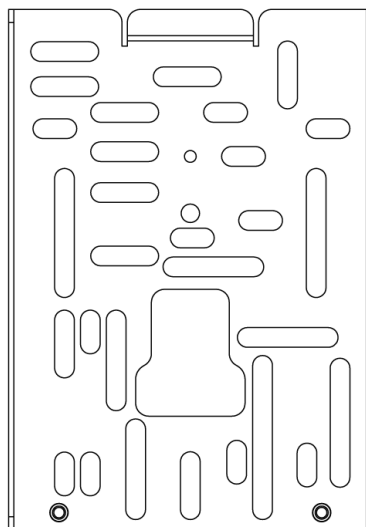

Figure 4. Universal Wall Bracket
1. Mount the universal wall bracket, shown in Figure 4, using the two screws provided. It is recommended to install the mounting bracket over the low voltage power wires, running the wires through the bottom center hole of the mounting bracket.